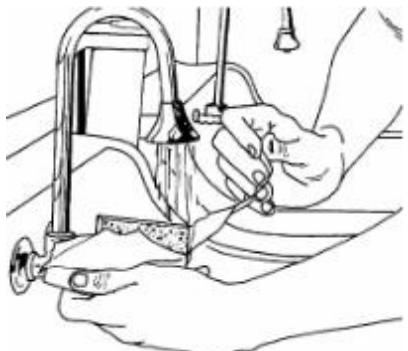

Figure 1-4
(1) Regulate the flow and temperature of the water.
(2) Pretear package containing brush (see Figure 1-4); lay the brush on the back of the scrub sink.